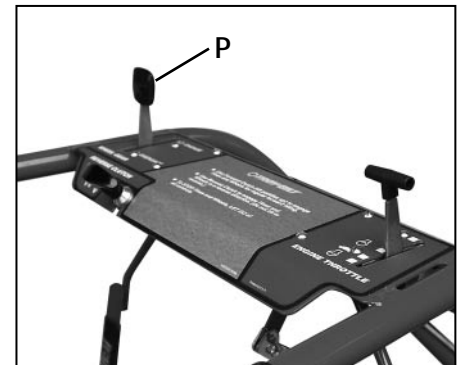

Figure 2-15: Attach Wheel Gear Lever.
2. Insert the Wheel Gear Lever (P, Figure 2-15) up through the slot in the control panel that is labeled "WHEEL GEAR."
4. Using a board, tap the Wheel Gear Lever knob securely onto the lever (see Figure 2-15).